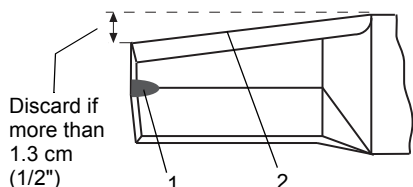

Figure 17
2. Set battery inside the frame, underneath the seat with battery terminals positioned as shown (Figure 17).